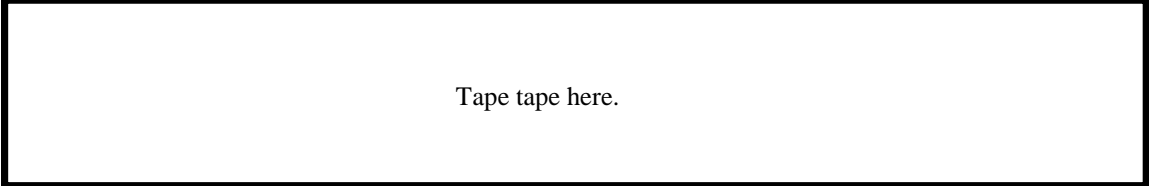

*Figure 3:* Double slit interference pattern, showing locations of the first three maxima.
- The pattern you observe on the view screen should be a horizontal line of alternating bright red and dark spots, or maxima and minima, something like that shown in *Figure 3* below.